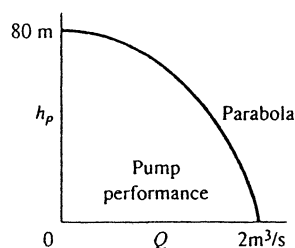

Fig. P6.80
6.85 The pump of Fig. P6.80 is used to deliver $0.7 \text{ m}^3/\text{s}$ of methanol at 20°C through 95 m of cast-iron pipe. What is the proper pipe diameter?